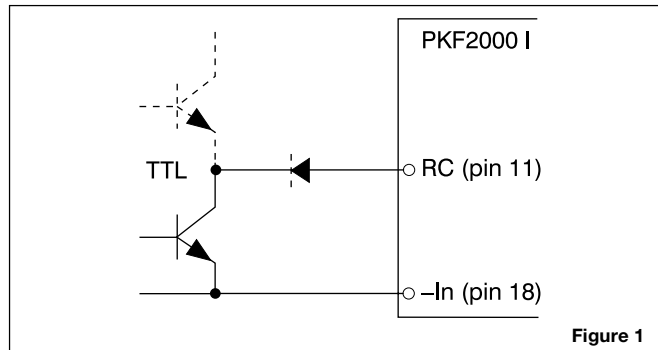

Figure 1
Turn-on or turn-off can be realized by using the RC-pin. Normal operation is achieved if pin 11 is open (NC). If pin 11 is connected to pin 18 the power module turns off. To ensure safe turn-off the voltage difference between pin 11 and 18 shall be less than 1.0V. RC is an TTL open collector compatible output with a sink capacity >300 mA (see fig. 1).